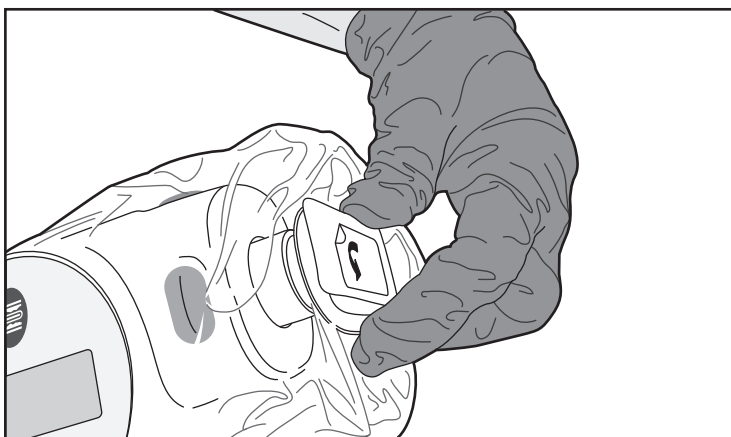
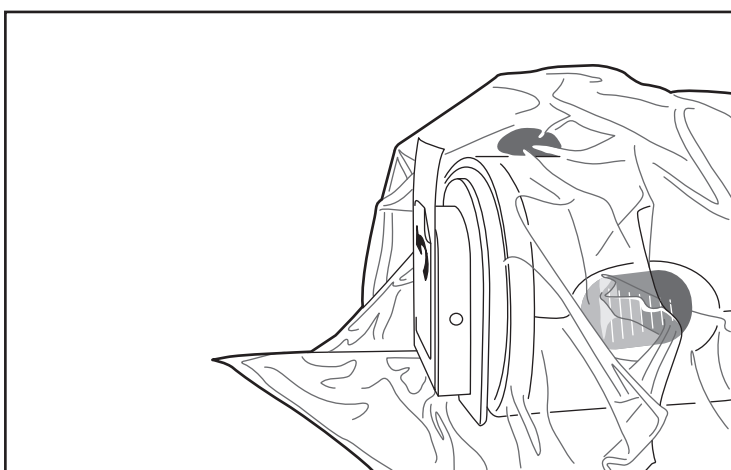

Figure 7. Attaching the Faceplate
Figure 8. Attached Faceplate
8. To attach the bag to the MDU5 PLUS™, the sterile operator should align the bag's faceplate with the nose of the MDU5 PLUS (Figure 7), and gently push to secure the connection. Do not trap material between the faceplate and the nose. Extra bag material around and beyond the connection is normal (Figure 8).